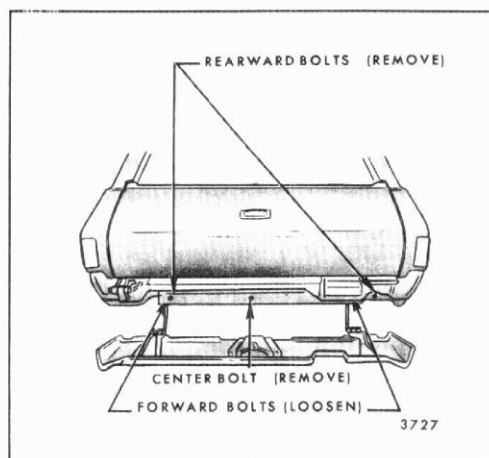

Fig. 9-31-Bumper Removal-"A" Body Shown, "B" Body Similar
- A. Remove the two rearward bumper to frame attaching bolts and loosen the forward two bolts (Figure 9-31).
- B. Remove the center bumper to frame bolt and lower bumper (Figure 9-31).